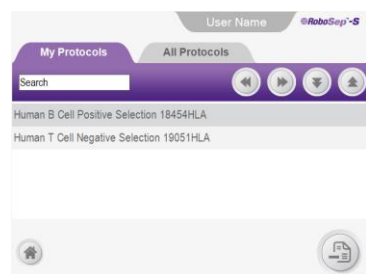

Figure 15. The Protocols Screen. In this example, the My Protocol tab is selected.
RoboSep™-S organizes cell separation protocols into two tabs in the Protocols screen (Figure 15):
2. Select  [Protocols] on the Home Screen. The Protocols screen will appear (Figure 15).